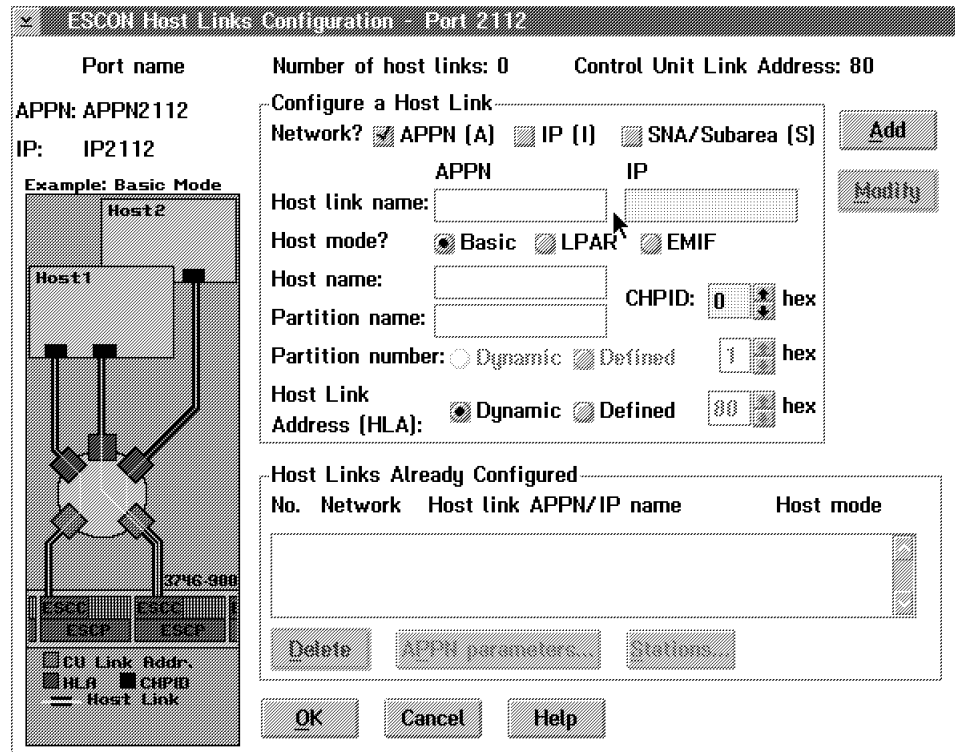

Figure 5-3. ESCON Host Link Configuration Window
**Step 1.** Enter the parameters as required in the **ESCON Host Link Configuration** window (see Figure 5-3).